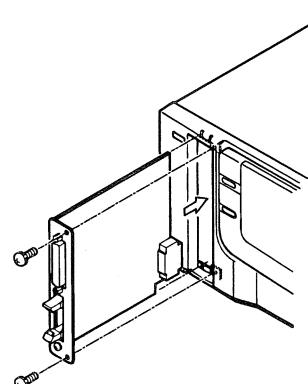

Fig. 2
- Step 3 Orient the interface board so that the parts-mounted side of the PCB is at the right, and place the PCB into the slot grooves. (See Fig.2)